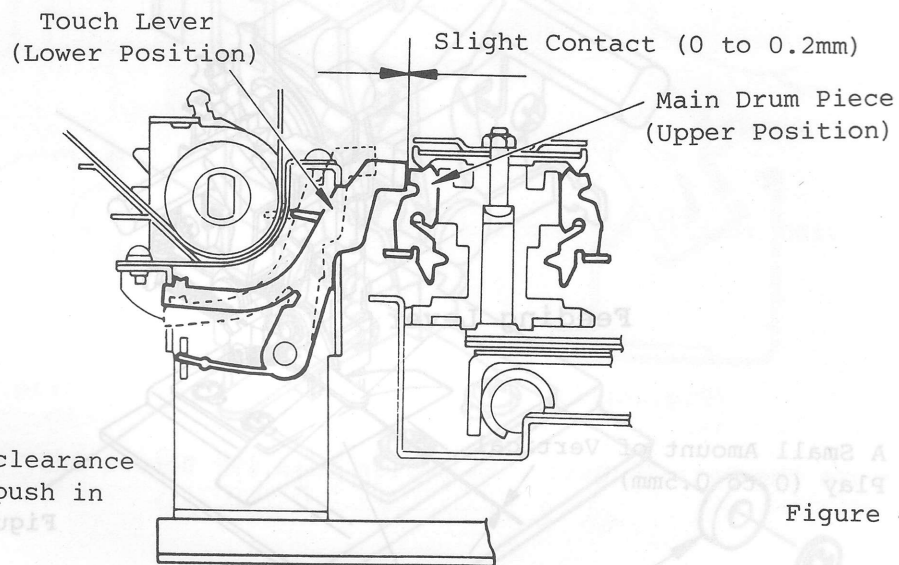

Figure 45.
- Position the Carriage so that the Main Drum and Touch Levers face each other. With the Main Drum Piece aligned with Touch Lever as shown in Figure 45, slide Pattern Unit toward or away from Main Drum using the blade of  $\ominus$  screwdriver to obtain 0 to 0.2mm clearance between Touch Lever (lower position) and Main Drum Piece (upper position).